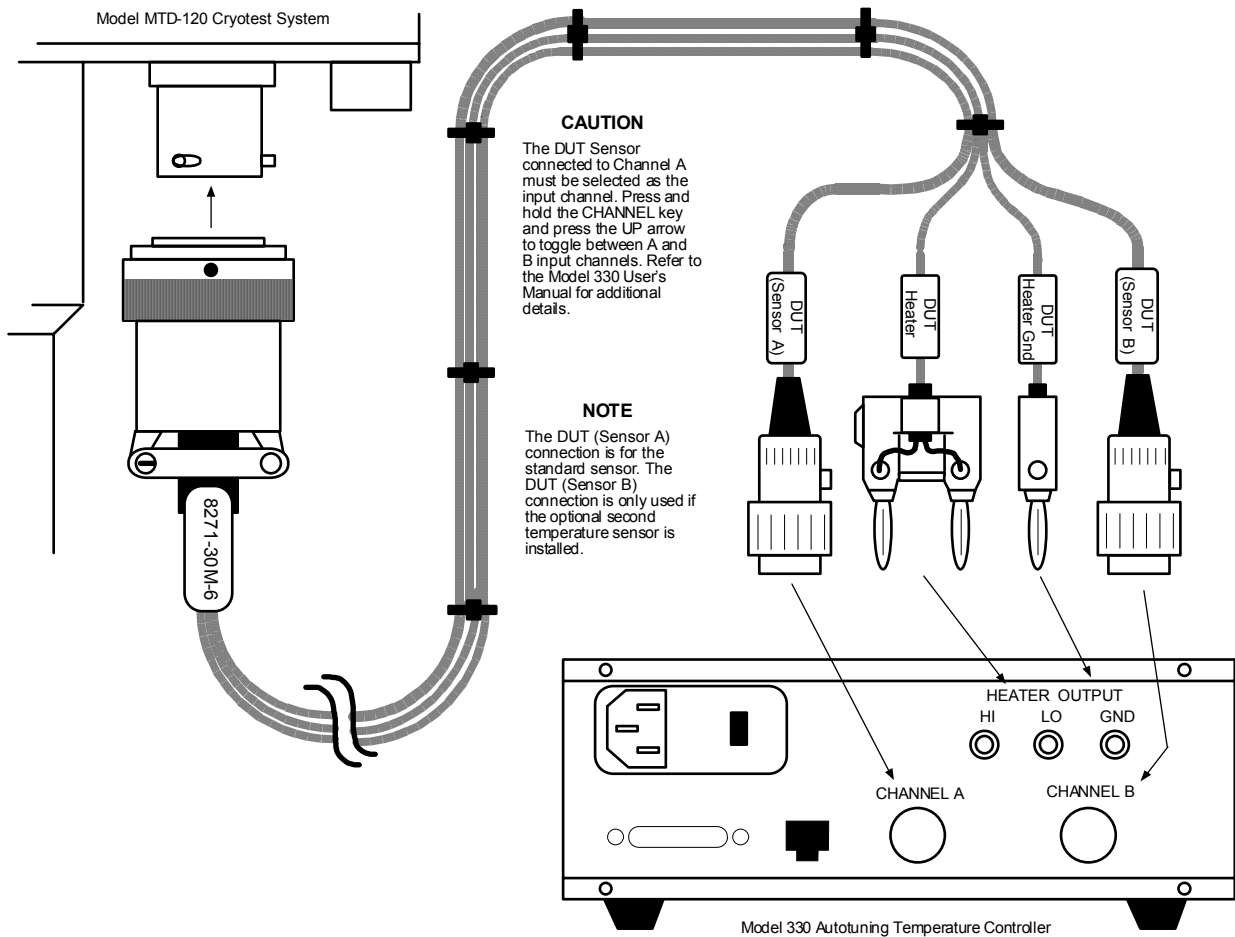
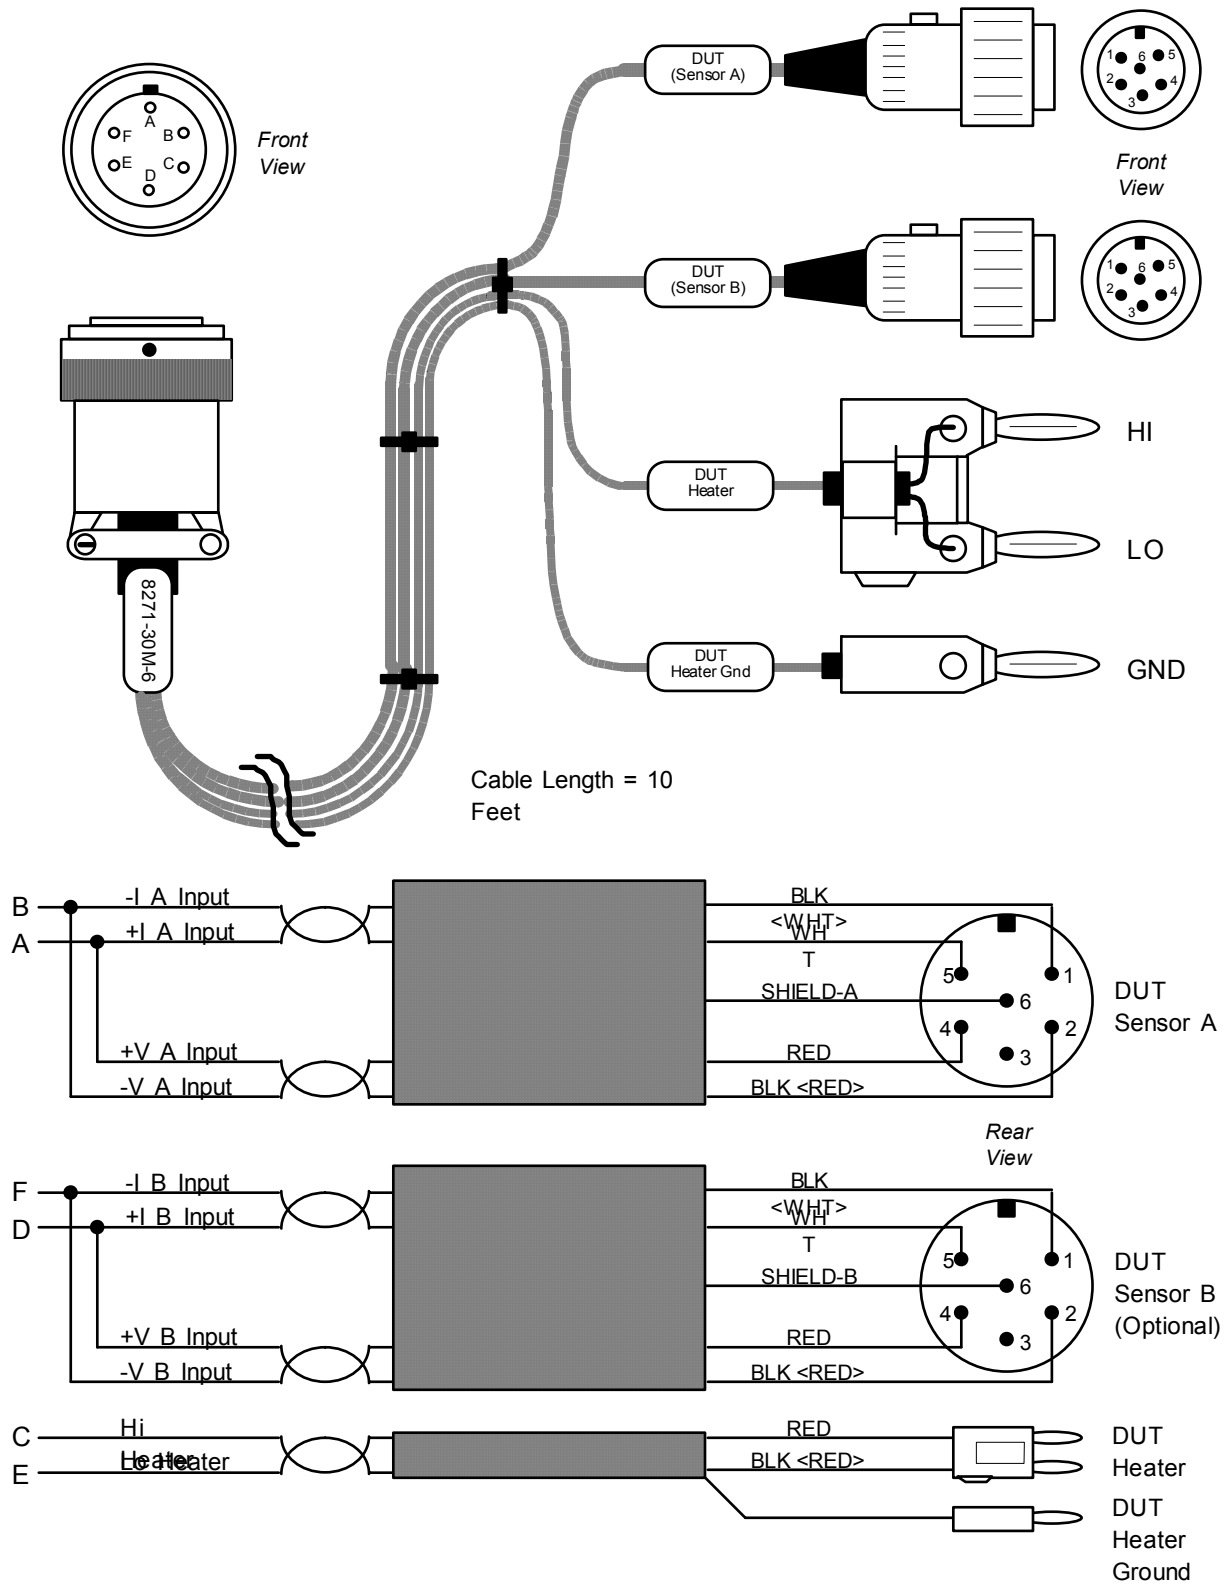

Figure 2-1 MTD-120 Hookup to the Model 330 Temperature Controller
Figure 4-1 Definition of Model 8271-30M-6 Cable Assembly
It is recommended the MTD-120 be used with the Model 330 Autotuning Temperature Controller. Figure 2-1 details the Model 8271-30M-6 Cable Assembly hookup to the Model 330. See Figure 4.1 for cable assembly definition.
- Connect other end of Instrumentation Cable to Temperature Controller. See Figure 2-1 for hookup to the Model 330 Autotuning Temperature Controller. Consult the Model 330 Temperature Controller User's Manual for controller operation.
Details of the optional Cable Assembly P/N 8271-30M-6 that connects a MTD-120 with a Lake Shore Model 330 Autotuning Temperature Controller appear in Figure 4-1